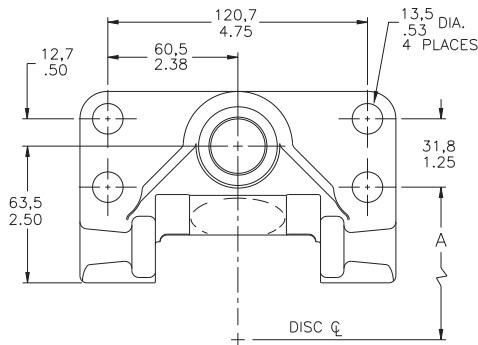

FIGURE 3
2. Using TABLE 2 and Figures 3 and 4 on the page 2 determine "A" dimension and locate mounting bracket assembly holes.